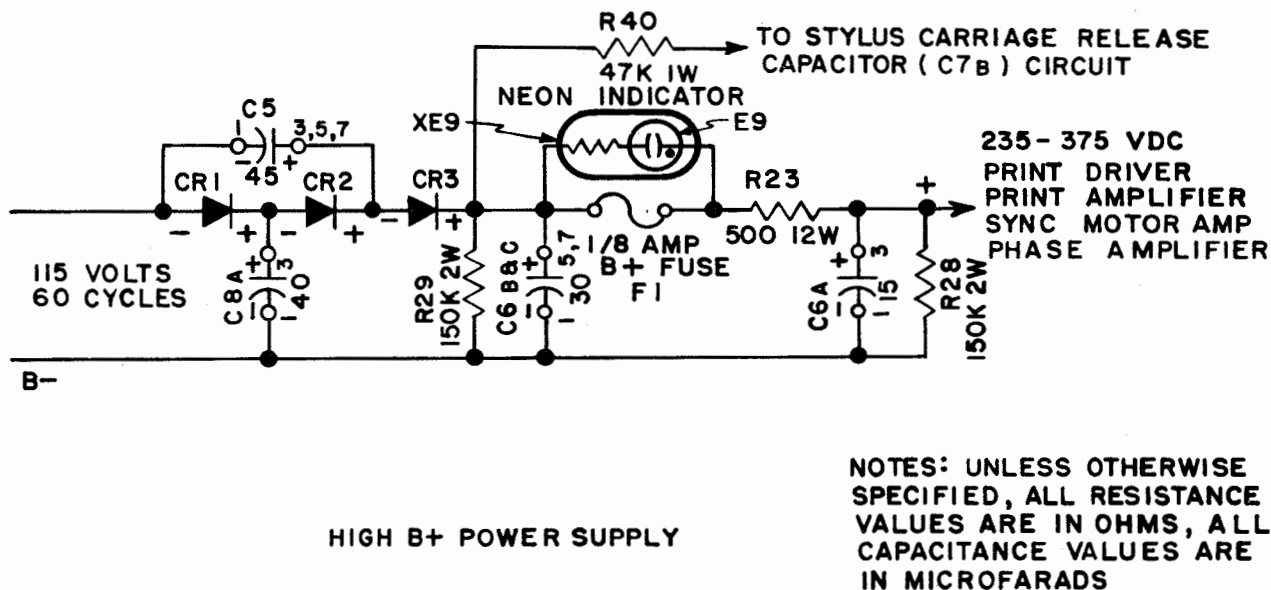

Figure 2-12. Schematic Diagram of High Voltage Power Supply
(4) HIGH VOLTAGE POWER SUPPLY.— (See schematic, figure 2-12.) The high voltage power supply is obtained from a voltage tripler circuit, eliminating the need for heavy transformers and chokes.